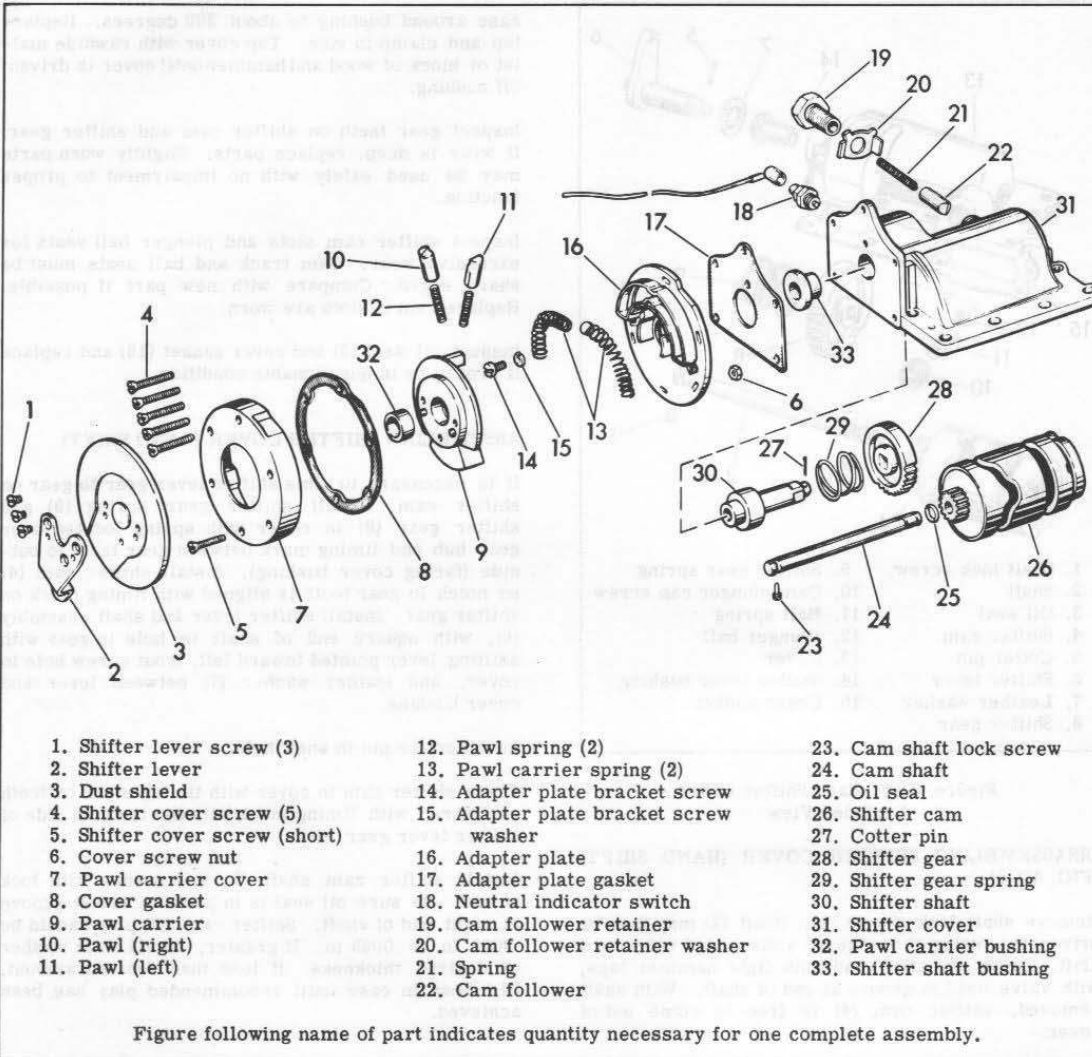

Figure 4D-6. Foot Shifter Cover - Exploded View
#### DISASSEMBLING SHIFTER COVER (FOOT SHIFT) (FIG. 4D-6)
**CLEANING, INSPECTION AND REPAIR (FIG. 4D-6)**